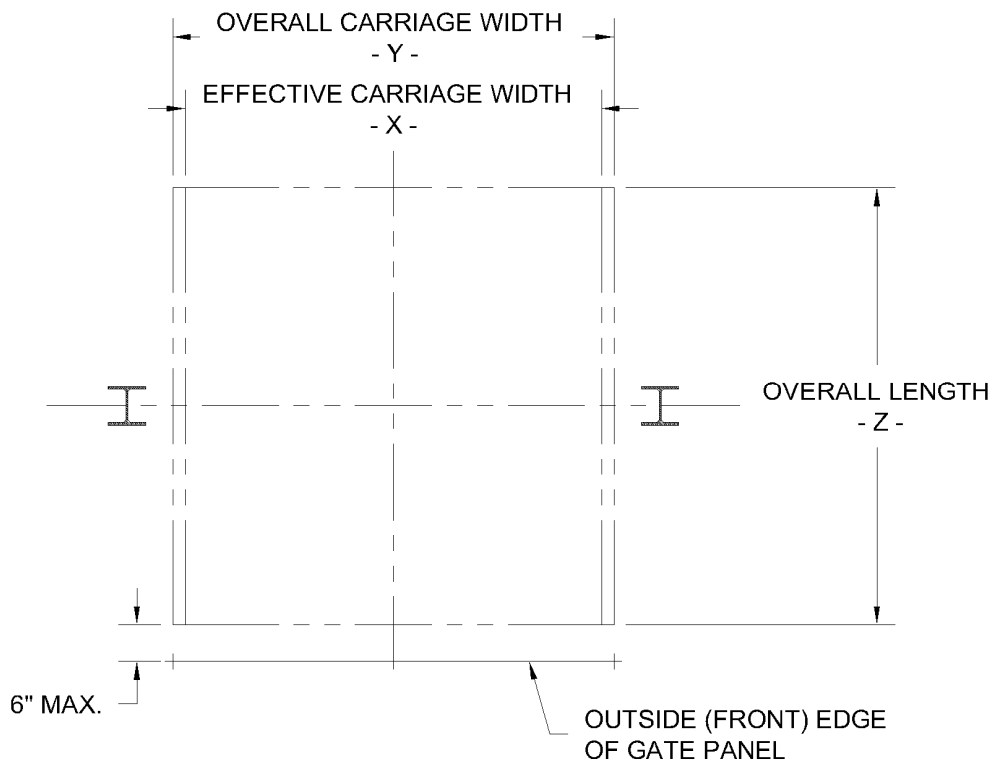

Figure 6 Gate Components
3. Locate the center of the lift platform using a carpenter's square and mark a center line on the floor. Mark the centerline for a distance of at least 9 inches out from the face of the platform. From each corner of the platform, mark a line out the same distance. Snap a reference chalk line from point to point (see **Figure 6**).